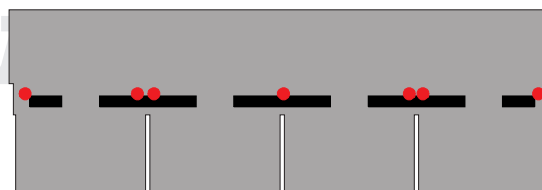

Fig. 6
**N.B.:** For slopes exceeding (60 degrees) apply 7 nails on each bituminous shingle and double the number of nails on the second and fourth position from the left as shown in Fig. 6.